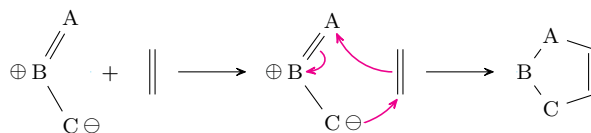

Figure 2.34: Dipolar cycloaddition.
- Forms the 5-membered ring you'd expect by drawing arrows as in Figure 2.34.